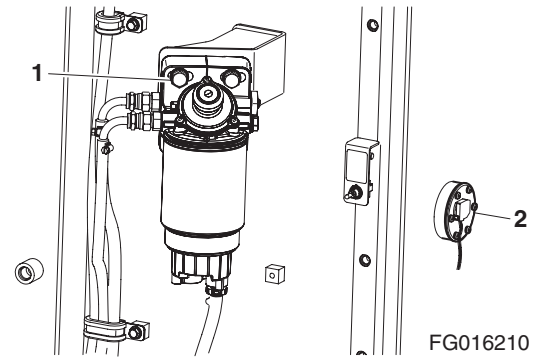

Figure 13
18. Remove prefilter mounting bolt (1, Figure 13).
19. Remove fuel sensor harness connector (2, Figure 13).